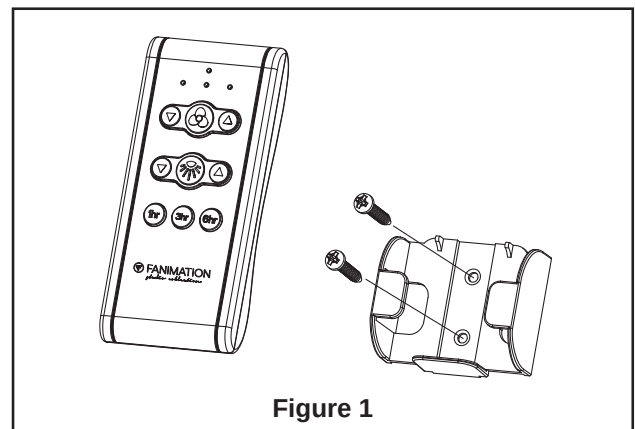

Figure 1
- 1. Installing Wall Plate:** (Figure 1)